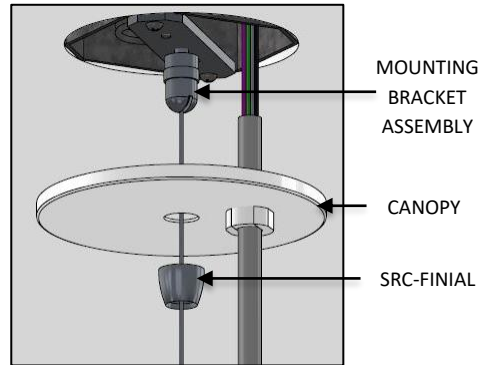

FIG. 28 - SRC-FINIAL INSTALLATION
17. Raise CANOPY and secure to ceiling by threading the SRC-FINIAL to the MOUNTING BRACKET ASSEMBLY as shown below in FIG. 28.